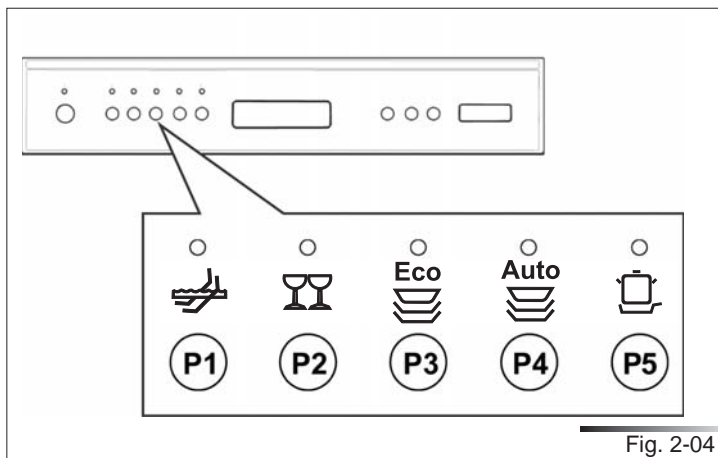

Fig. 2-04
Select the programs using the relative buttons (see P1, P2, P3, P4, P5 fig. 2-04). Press the button relative to the required program (see tab. 2-03a, 2-03b). The relative indicator light shines to confirm the operation and the estimated cycle time in hours and minutes ("**h.mm**") appears on the **display** (ref. 8 fig. 2-03).